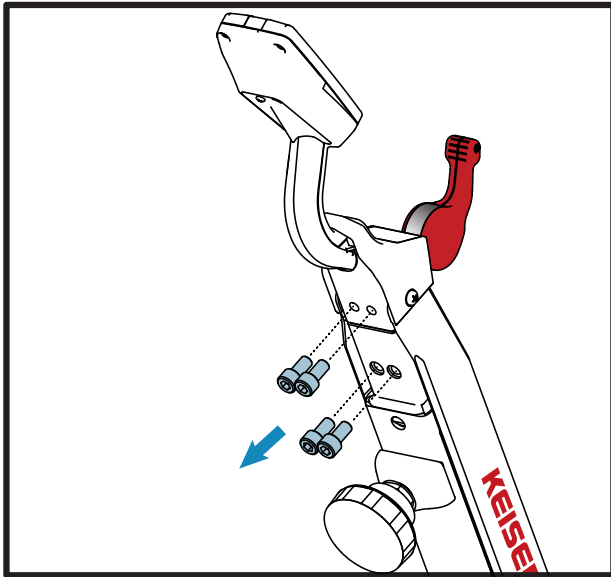

Figure 15. Remove the 6mm Screws From the Handlebar
4. Remove the four 6mm Allen screws from the handlebar tube, located below the computer mount, refer to Figure 15.